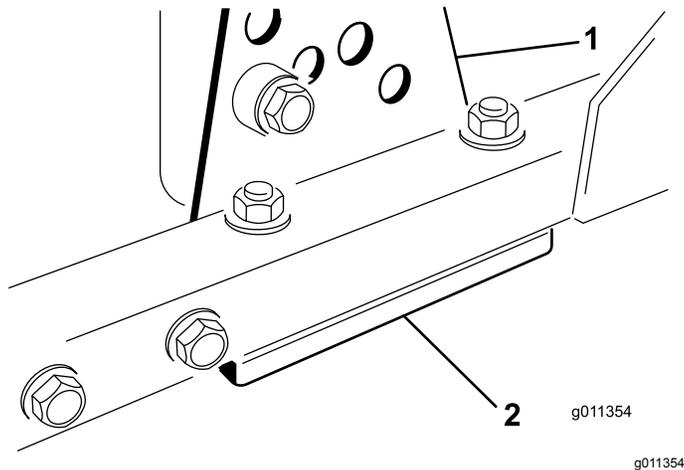

Figure 82
- Remove the height-of-cut bracket, (front, left, or right) from the deck frame (Figure 82).
- Adjust 1.5 mm (0.060 inch) shims and/or 0.7 mm (0.030 inch) shim between the deck frame and bracket to achieve the desired height setting (Figure 82).